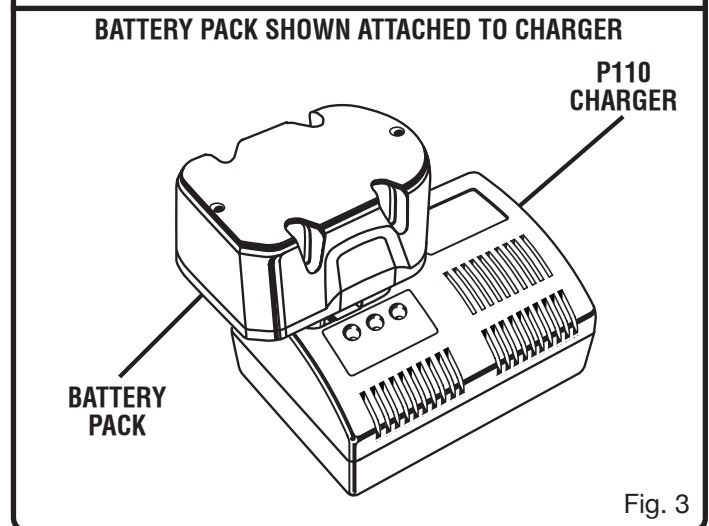

Fig. 3
- Place the battery pack in the charger aligning raised rib on the battery pack with the groove in the charger. See *Figure 3*.